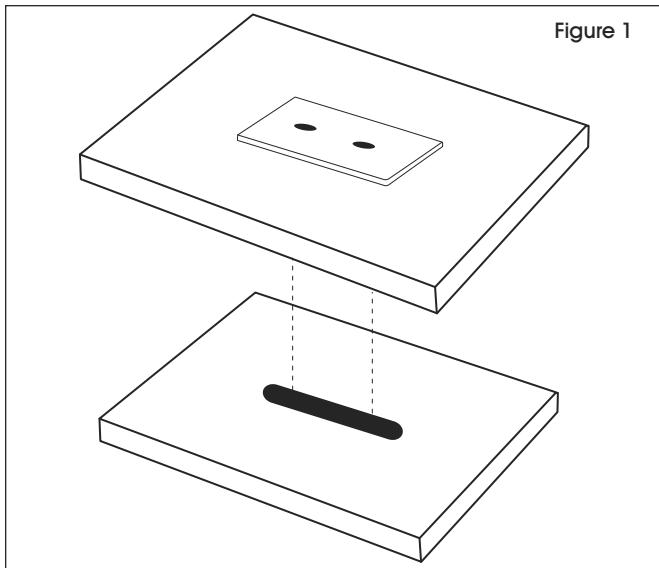

Figure 1
1. Place nameplate on top of base cover. Place nameplate and base cover over plastic base. (See Figure 1)